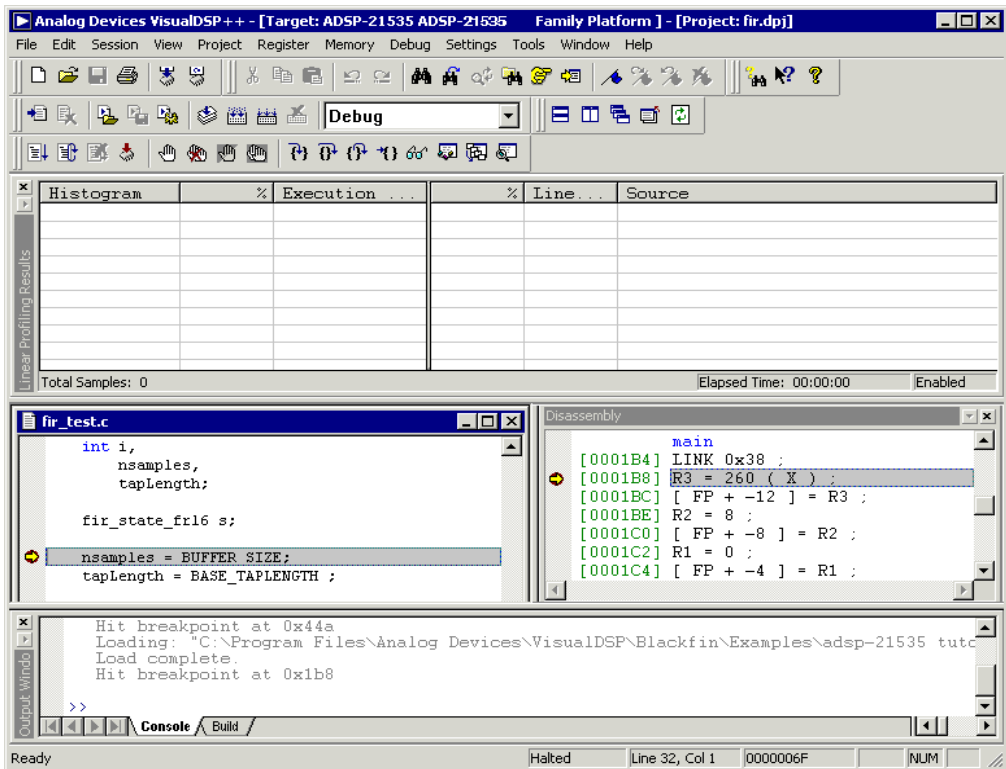

Figure 2-37. Linear Profiling Results Window (Empty)
2. For a better view of the data, use the window's title bar to drag and dock the window to the top of the VisualDSP++ main window, as shown in Figure 2-37 on page 2-49.